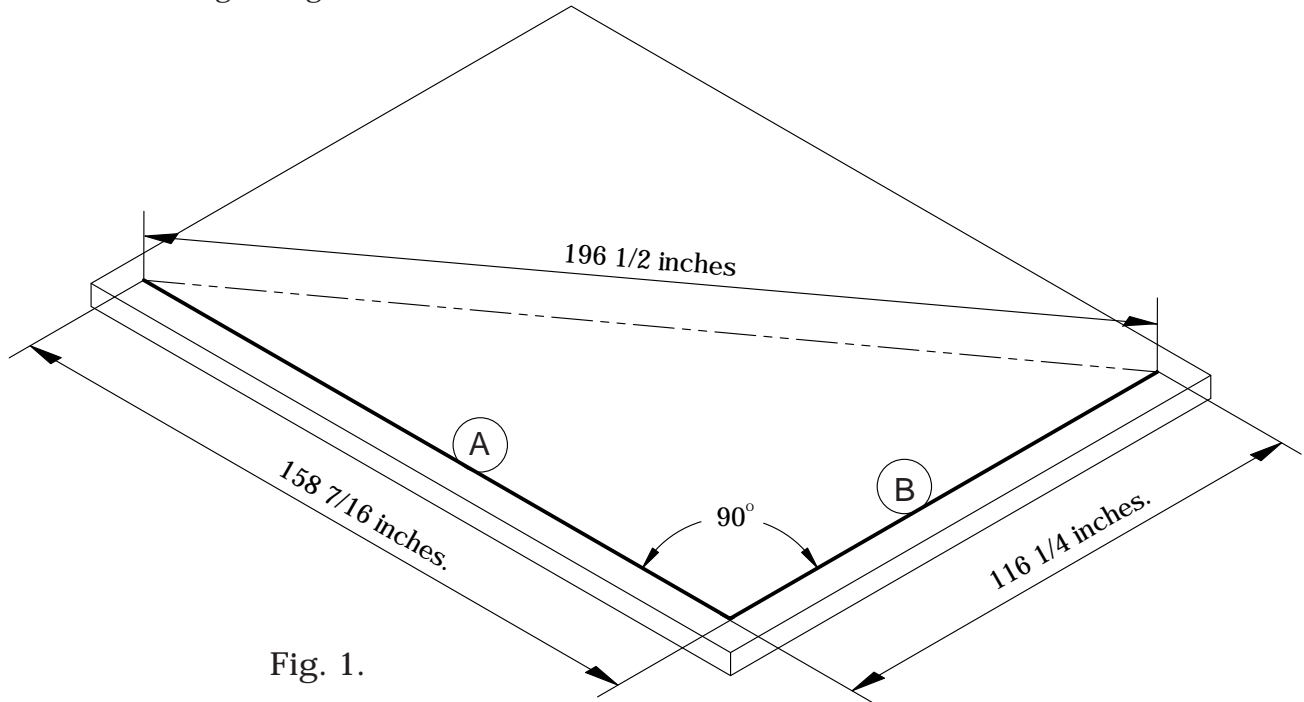

Fig. 1.
1. To ensure a square footing on the base make the line A & B as shown in fig.1. Check the corner dimension as shown in fig.1. With a carpenter square to ensure a 90 degree angle.